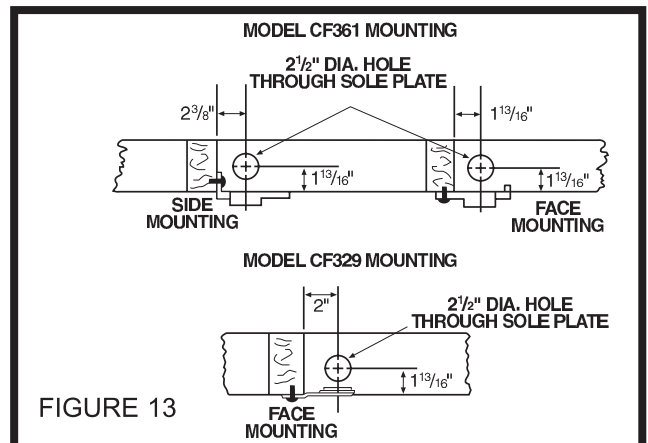

FIGURE 13
**NOTE:** See Figure 13 for center line dimensions.